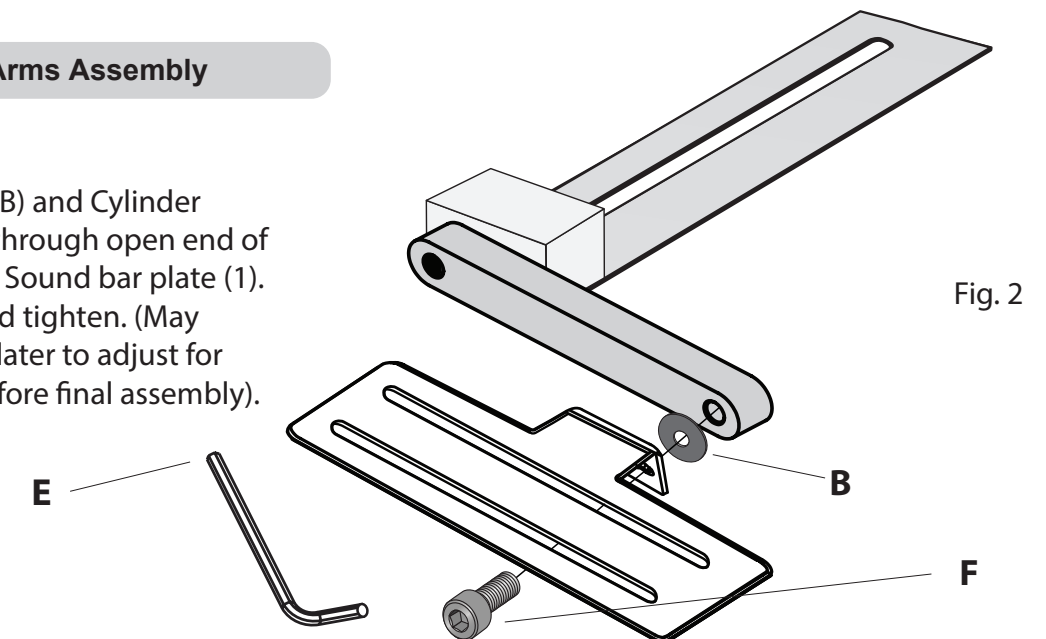

Fig. 2
Using Nylon Washer (B) and Cylinder Head Screw (F) slide through open end of extender arm (2) into Sound bar plate (1). 6mm Allen Key (E) and tighten. (May need to loosen bolts later to adjust for depth but tighten before final assembly). (See Fig.2)